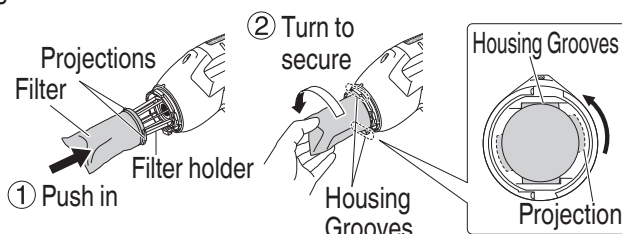

Fig. 11
(4) Install the filter (Fig. 11)